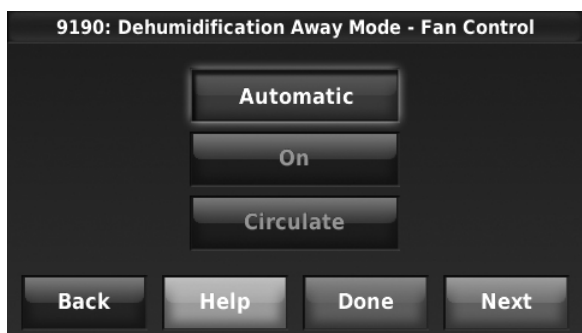

Fig. 232.
2. Set Fan Control settings. See Fig. 232.